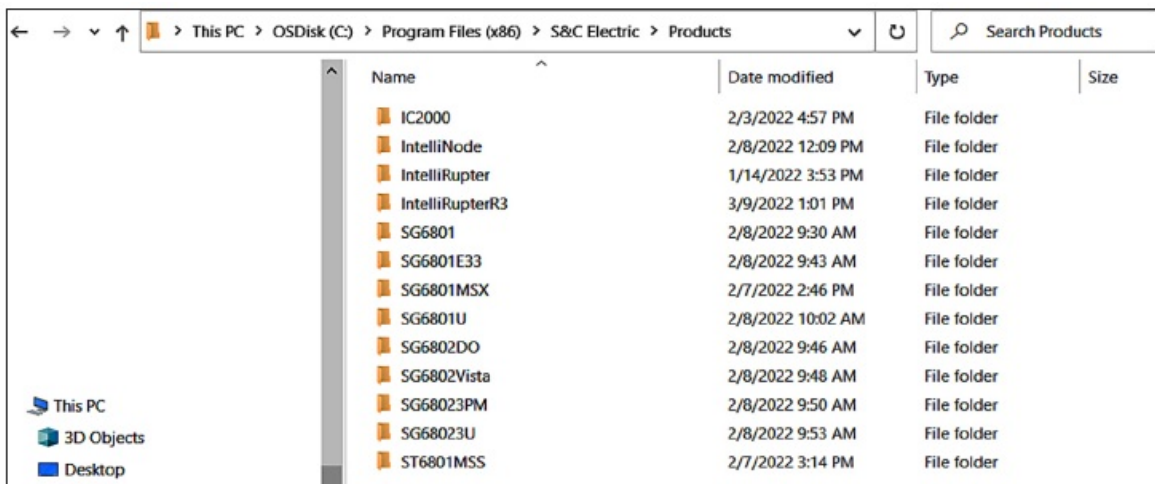

Figure 28. The selected program folder to be uploaded.
- **STEP 5.** If any IntelliLink Setup Software is already installed, remove it by uninstalling it from the Windows program with the Uninstall option. See Figure 28.